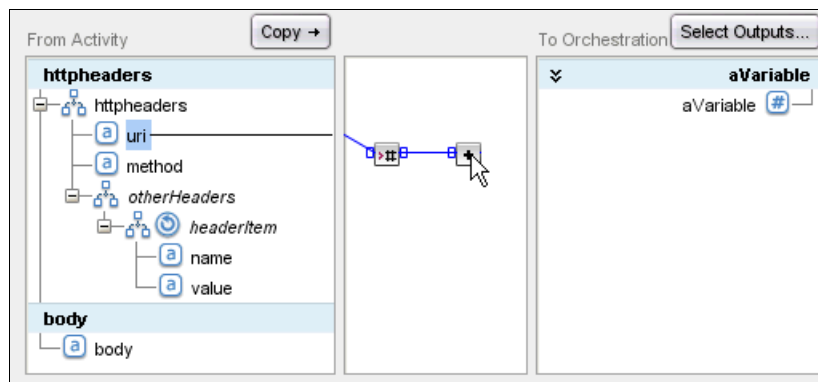

Figure 3-89 Chaining the Number and Add functions
3. Define the mapping of the result of the function by dragging the function to a destination field. You can chain functions together by setting the result of one function to be an input parameter of the next function, as shown in Figure 3-89, where an Add function is dragged to the middle pane, and then the Number function is dragged to the Add function. A line is drawn between the functions to show that they are chained.